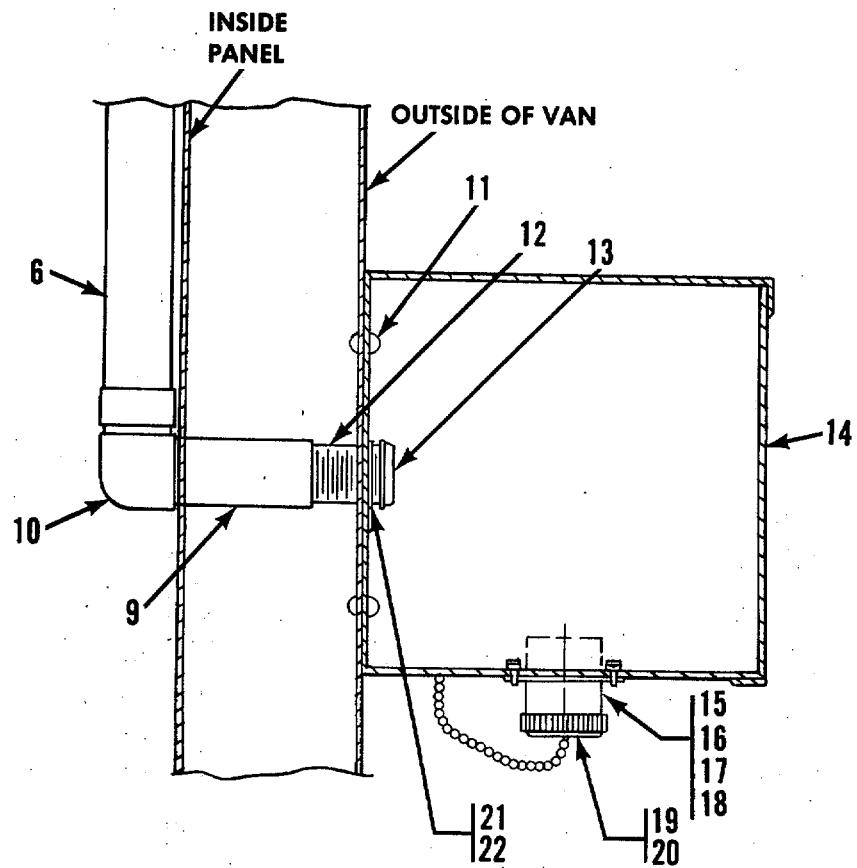

Figure 5. Front Exterior Electrical Wiring Box.
- (5) Install cover on load center (7) and secure with screw.
**2-3. Electrical Wiring Box Removal and Installation (figure 5).**
- (1) If removed, install 90 degree elbow (10) on conduit (6), install coupling (9) into elbow (10) and install pipe nipple (12) into coupling (9).
- (2) Coat rear edge of box (14) all the way around with adhesive (22).
- (3) Position box (14) on front with pipe nipple (12) through hole in rear of box.
- (4) Secure box (14) with four blind rivets (11).
- (5) Install locknut (21).
- (6) Install conduit bushing (13) on nipple (12).
- (7) Insert wire pins into plug connector (15) with black wire in A, white wire in B and green wire in C.
- (8) Install front cover on box (14) and secure with screw
**2-4. Connector Plug Removal and Installation (figure 5).**
- (1) Remove front cover screw and front cover from box (14).
- (2) Pull wire pins from connector plug (15).
- (3) Remove four screws (16), lockwashers (17) and flat washers (18).
- (4) Remove dust cover (19) from connector plug.
- (5) Remove connector plug (15).